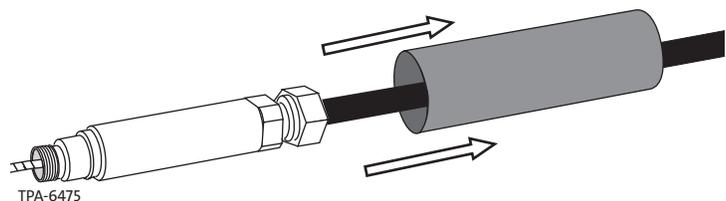

Figure 3
**Step 4:** Slide the heat-shrink tube over the connectorized assembly and move it down the cable stub past the straight CATV Node assembly (Figure 3).